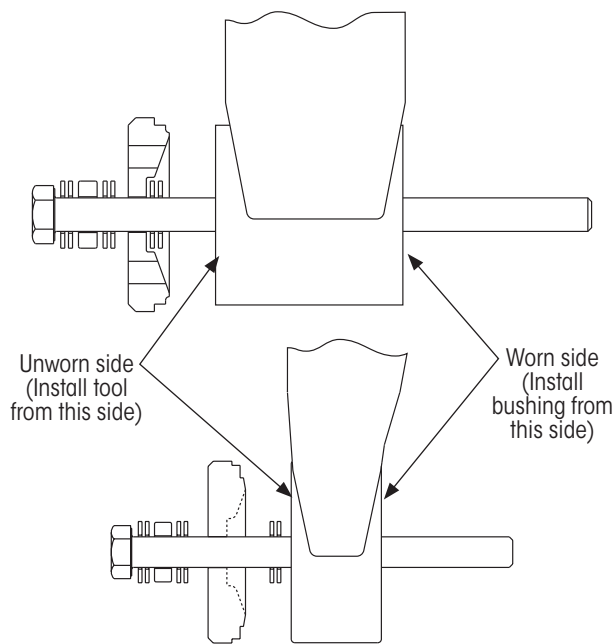

Figure 33: Apply lube to thrust washers
**NOTE:** There must be two lubricated thrust washers on each side of the thrust bearing as shown in Figure 32 and Figure 33.
8. **Apply** extreme-pressure lube to external surfaces of the thrust washers (Figure 33).